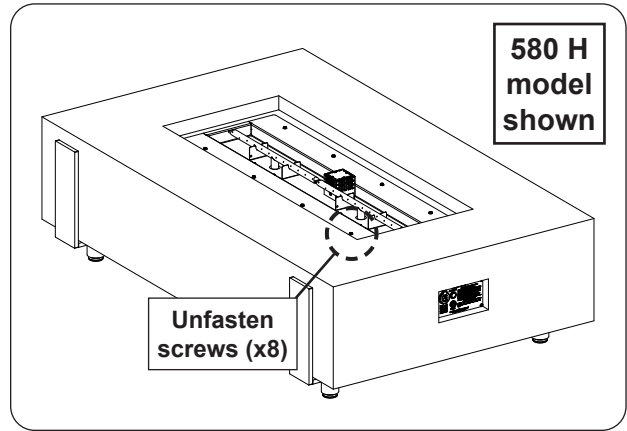

Fig. 33-1 Gain access to interior of unit
1. Use a  $\frac{5}{16}$ " nut driver to loosen the 8 screws found on the burner assembly (see Fig. 33-1).